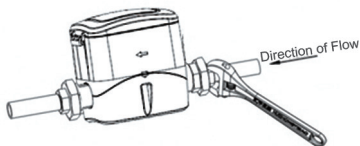

Fig.5-5 Meter Mounting Diagrammatic Sketch 5
- Facing the meter with connecting fitting for installation (Fig. 5-5).